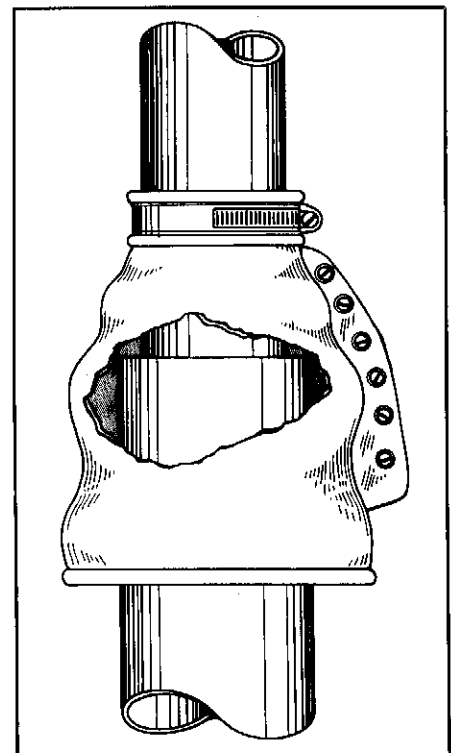

Fig 31—KB6FNP suggests a Volkswagen transaxle boot to cover and protect a rotator thrust bearing.
□ Fig 31 is a drawing of a Volkswagen transaxle boot. The part is available at local Volkswagen dealers and it serves well to protect rotator thrust bearings from the weather. On a vehicle, the boot is installed by wrapping it around the transaxle and fastening it closed with screws. Thus, it can be easily installed on an existing tower assembly with a minimum effort.—*Robert Powell, KB6FNP, Lakewood, California*